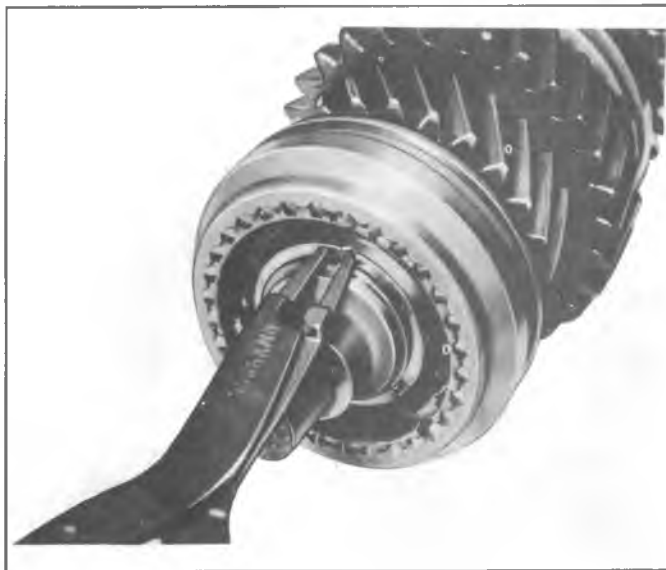

Fig. 7B1-10--2nd-3rd Clutch Hub Retaining Ring
8. Using snap ring pliers, expand the snap ring in the extension which retains the mainshaft rear bearing (Fig. 7B1-7) and remove the extension.